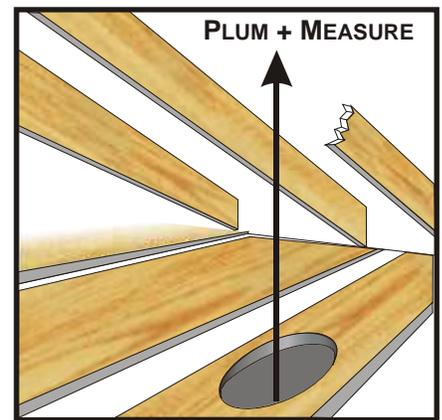

Figure 4
5. Now that the ceiling hole is cut, you will need to locate the roof hole center point to be cut. Plumb from the hole in the ceiling either with a level or a plumb line up to the roof boards and mark the spot (Fig. 4). Drill a small hole up through the roof. It may be necessary to push a probe up through the hole to help you locate it